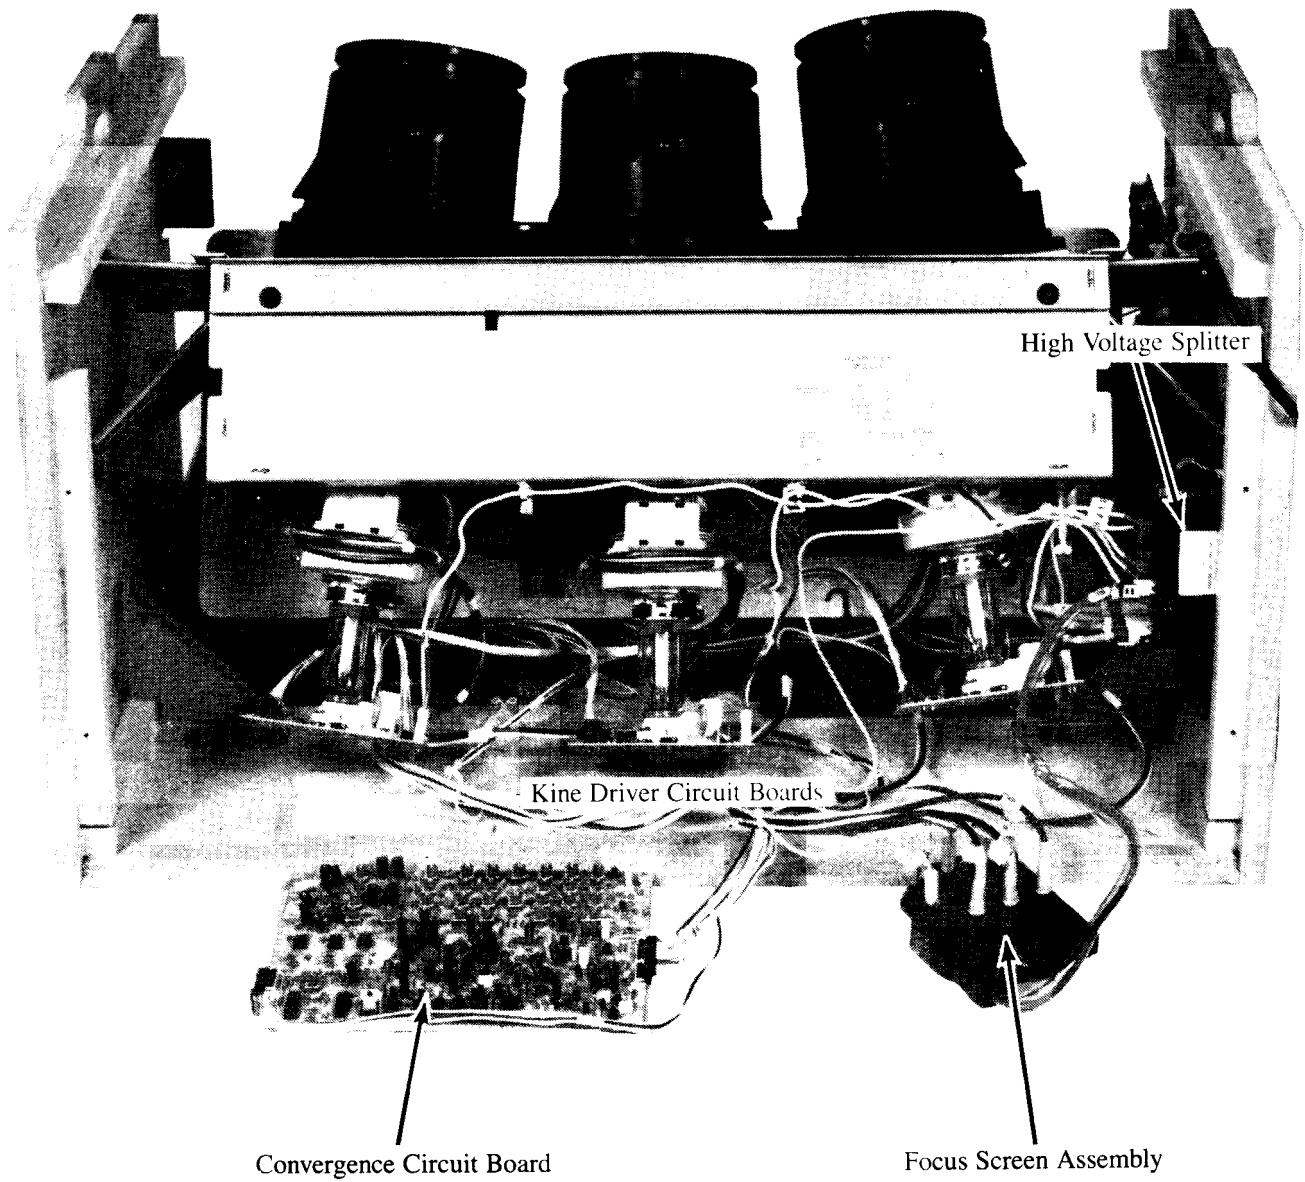

*Figure 9, PTV Kit Removal*
5. Lift the rear edge of the PTV Kit slightly and then slide the Kit out the back, Figure 9. On some versions, once space is available, remove the Front Panel circuit board and lay it on the top lens barrier. In any case, **DO NOT FORGET THE FRONT PANEL CONTROL**. In some versions the IR remote sensor is in the front panel. If it is left behind, the set cannot be operated. On sets that have the IR receiver mounted on the lens barrier, the PTV can be operated via the remote control without the Front Panel circuit board.